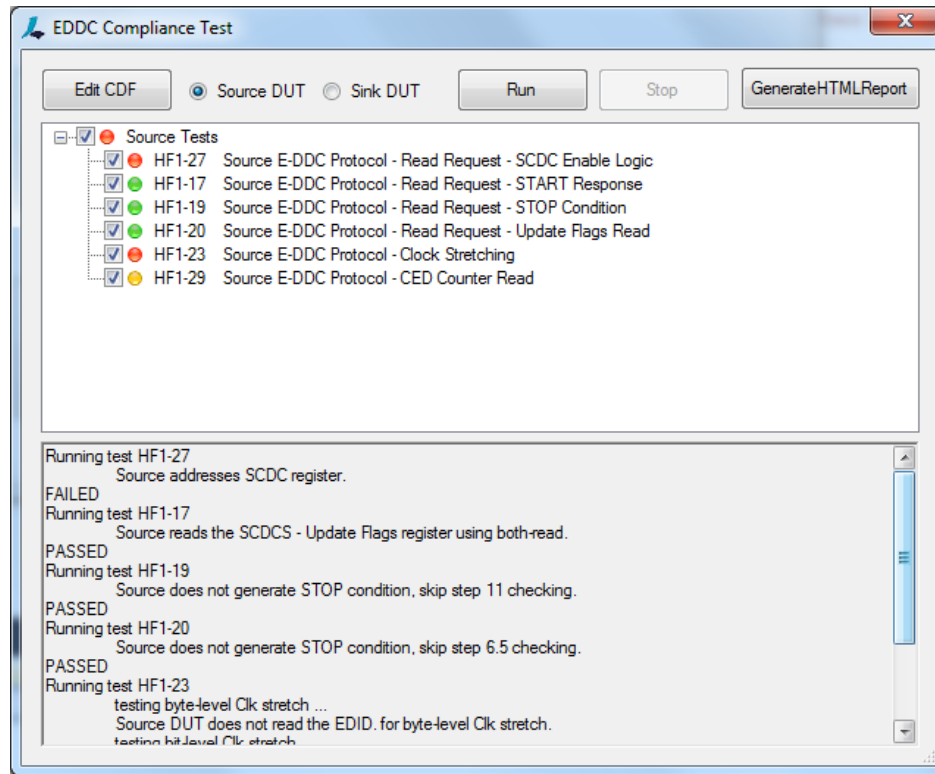
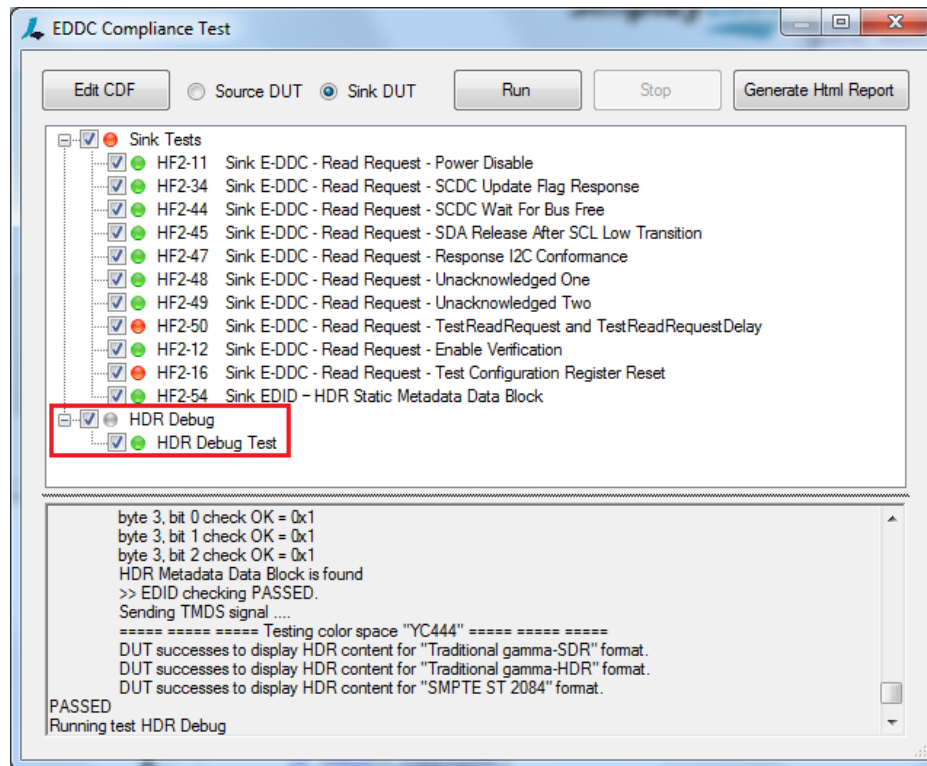

Figure 4.4. EDDC Source Test with Log File
Figure 4.5. EDDC Sink Test with Log File
6. The selected tests run as shown below (Figure 4.4 and Figure 4.5).